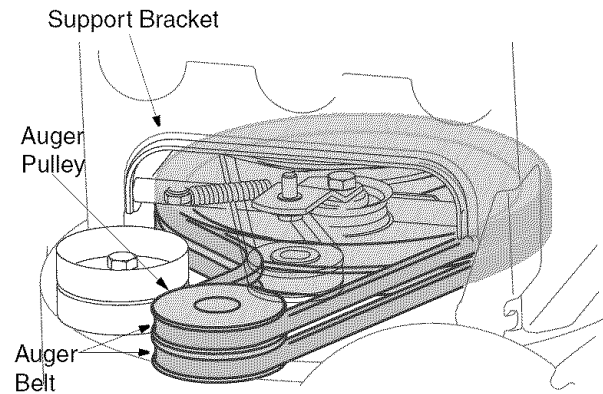

Figure 19
- Roll the front and rear auger belts off the engine pulley. See Figure 19.
- Lift the auger belt from the auger pulley, and slip belt between the support bracket and the auger pulley. Repeat this step for the front auger belt. See Figure 19.